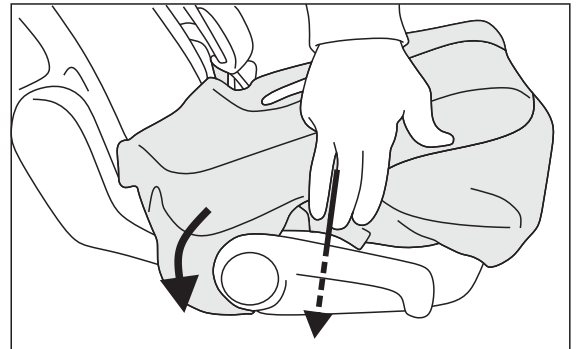

Fig. 13
13. On the outside of the seat base, wrap cover under and around the seat adjustment lever. Attach the hook and loop tapes directly under the lever. (Fig. 13)